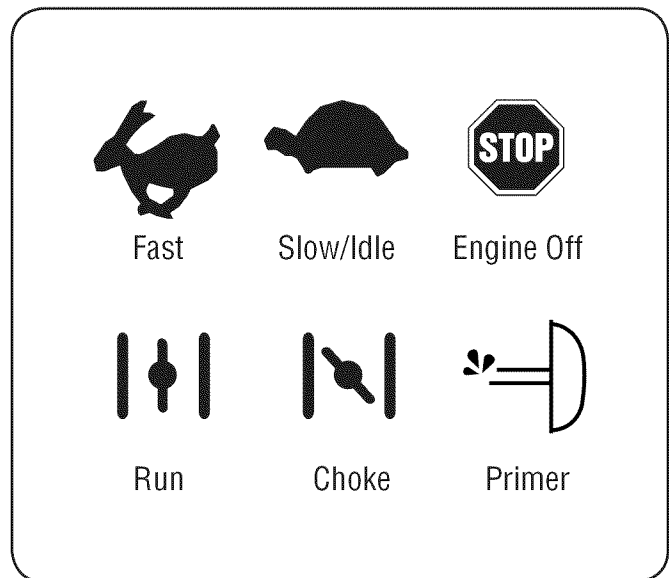

Figure 5-1
**Familiarize** yourself with the engine symbols shown in Fig. 5-1 before attempting to start this engine. If this engine is remotely controlled by the equipment it is powering, be sure to familiarize yourself with the equipment Operator's Manual as well.